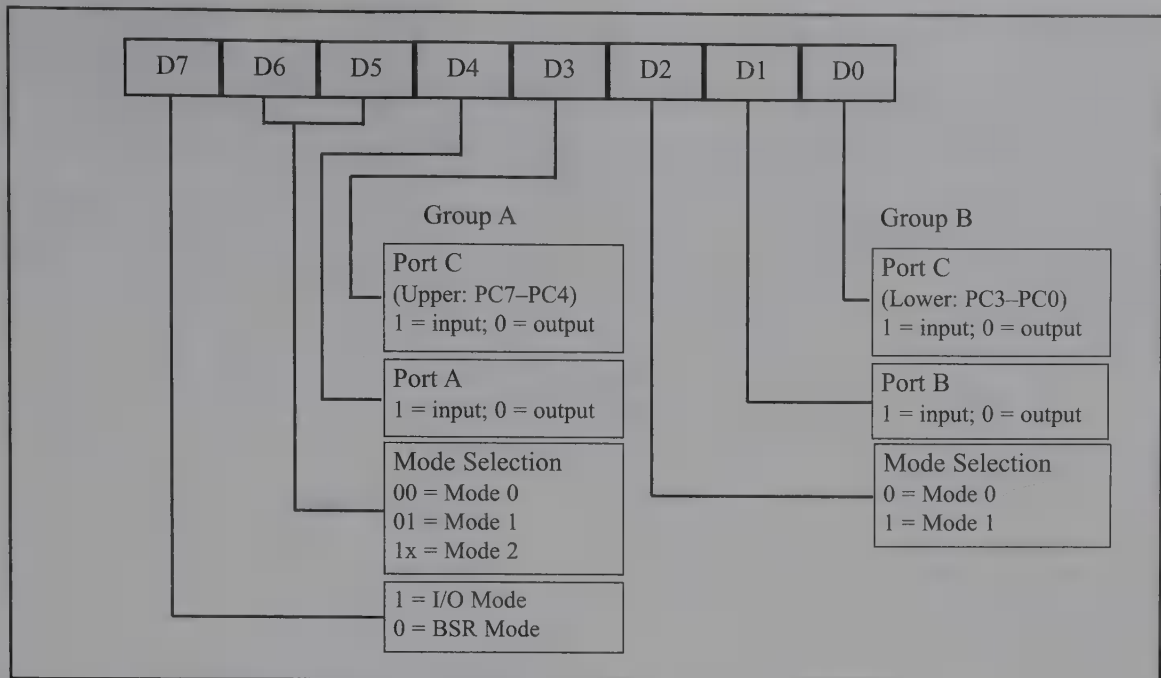

Figure 11-12. 8255 Control Word Format (I/O Mode)
While ports A, B, and C are used for I/O data, it is the control register that must be programmed to select the operation mode of the three ports A, B, and C. The ports of the 8255 can be programmed in various modes, as shown in Figure 11-12. Mode 0, the simple I/O mode, is the most widely used mode and the only one we are concerned with. In this mode, any of the ports A, B, CL, and CU can be programmed as input or output. In this mode, all bits are out or all are in. In other words, there is no control of individual bits. Examples 11-4, 11-5, and 11-6 show programming of 8255 ports in simple I/O mode.
- (a) From Figure 11-12 we get the control word of 1000 0011 in binary or 83H.